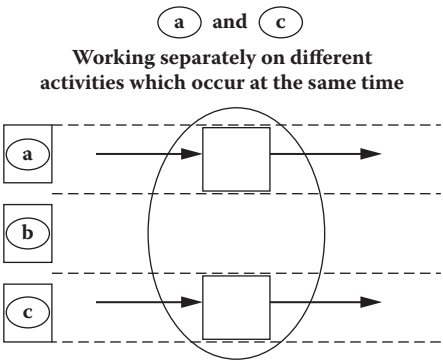

Figure 5.13 Pattern of two parallel activities.
9. Often, you may discover that two different activities (performed by different entities) may occur at roughly the same time. These are *parallel* activities (Figure 5.13).